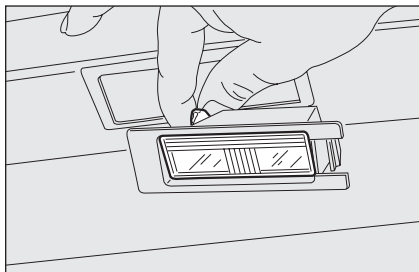

fig. 25
- change the bulb **fig. 25** releasing it from the side contacts and making sure the new bulb is correctly fastened between the contacts;